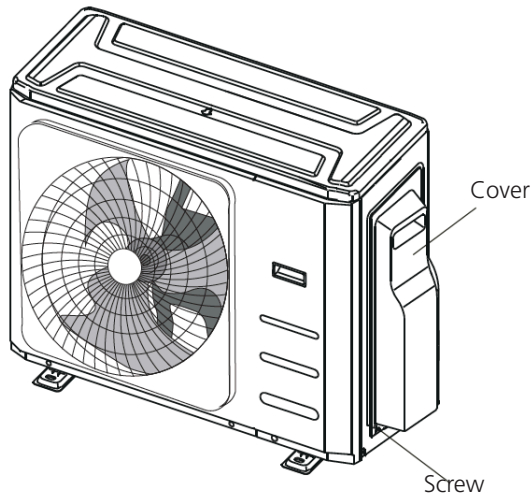

Fig. 7.1
2. Remove the electric cover of the outdoor unit. If there is no cover on the outdoor unit, disassemble the bolts from the maintenance board and remove the protection board. (See **Fig. 7.1**).